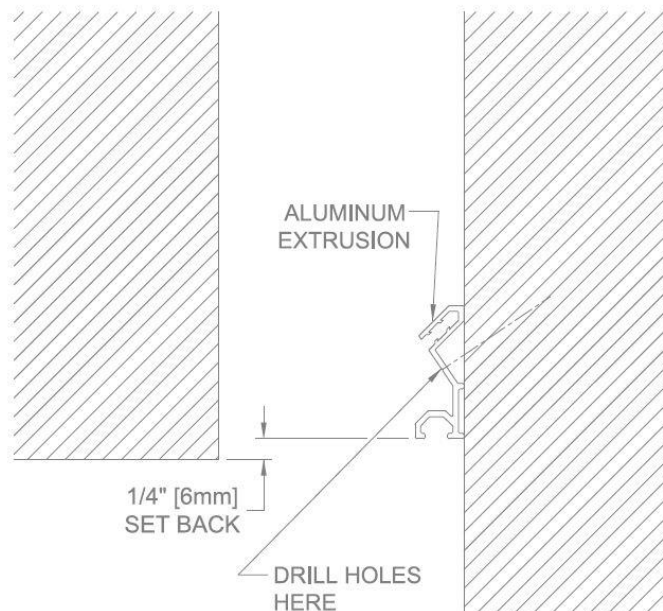

FIGURE 1
1. Position one of the frames onto the wall of the expansion joint and mark hole locations at 18" OC. (Reference shop drawings for more details) Drill  $\text{Ø}3/16$ " holes into the extrusions at the marked locations. When attaching to a concrete wall, drill a hole into the concrete at these locations with a  $\text{Ø}5/32$ " masonry bit. **See Figure 1.**